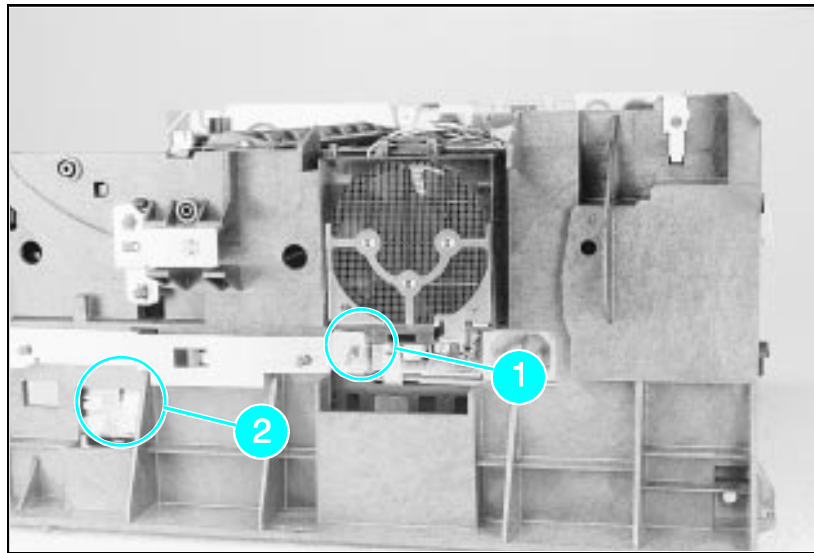

Figure 25 Grounding Spring screw location.
2. On the right side, remove the machine screw and washer (Figure 25) holding the grounding spring in place. (Callout 1 in Figure 25).
3. Disconnect the two cables to the tray 1 assembly (callout 2 in Figure 25).